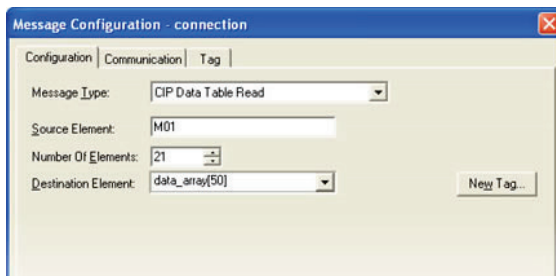

Figure 71: MSG Instruction Configuration
b) Click the message configuration button (“...”) in the MSG instruction. The “Message Configuration” window will open. Refer to Figure 71.